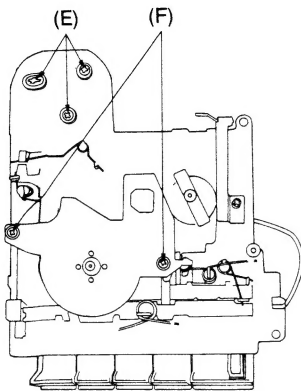

Fig. 5
(See Fig. 5)
1. Remove the two screws F×3 (2.6×10)mm and flywheel holding plate ass'y. (See Fig. 5)